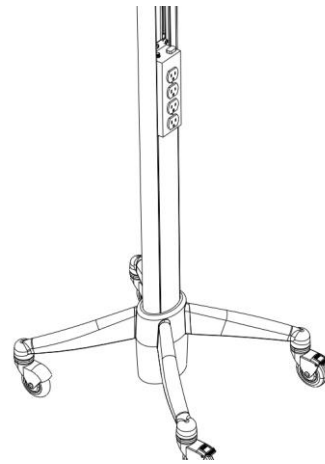

Figure 5: Mounted Accessory.
6. Replace the lower section of the plastic channel cover such that it will bottom out in the base of the cart. Slide the accessory item into the channels of the column and tighten the socket cap screws once it is at the top of the lower piece of plastic cable covering. See Figure 5.